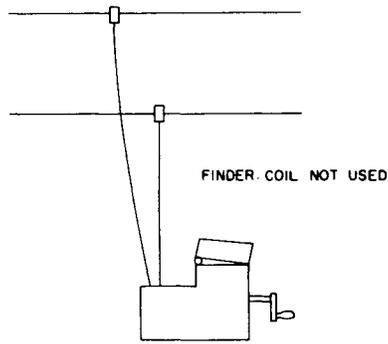

Figure 14. Connection for insulation - resistance test.
- a. Connect the test clips to the two wires being tested (figure 14). Attach only the saw-tooth portion of the test clip to the wire. DO NOT pierce the insulation with the needle point.